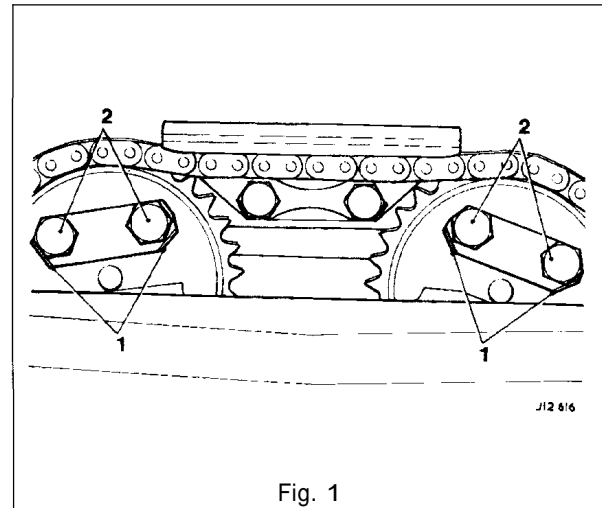

Fig. 1
- Tighten the cylinder head bolts with reference to the sequence shown in Fig. 1.